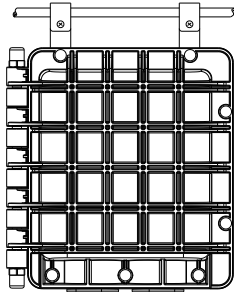

Figure 7
6.1 If the FOSC is for aerial application, then put the hanging hook on one side of the closure and then tighten fixing bolts on one sides. Otherwise tighten the four fixing bolts on two corners respectively. See Figure 7